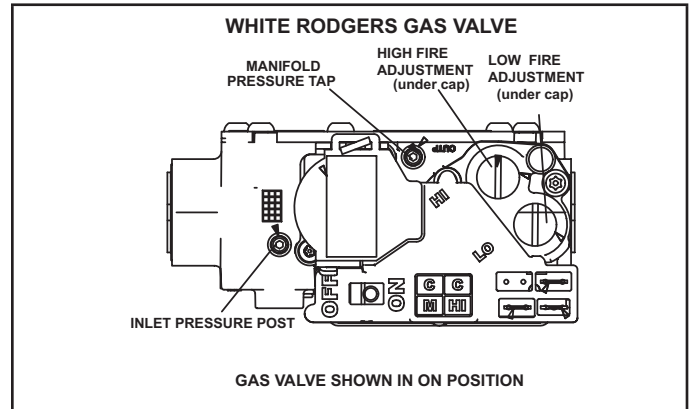
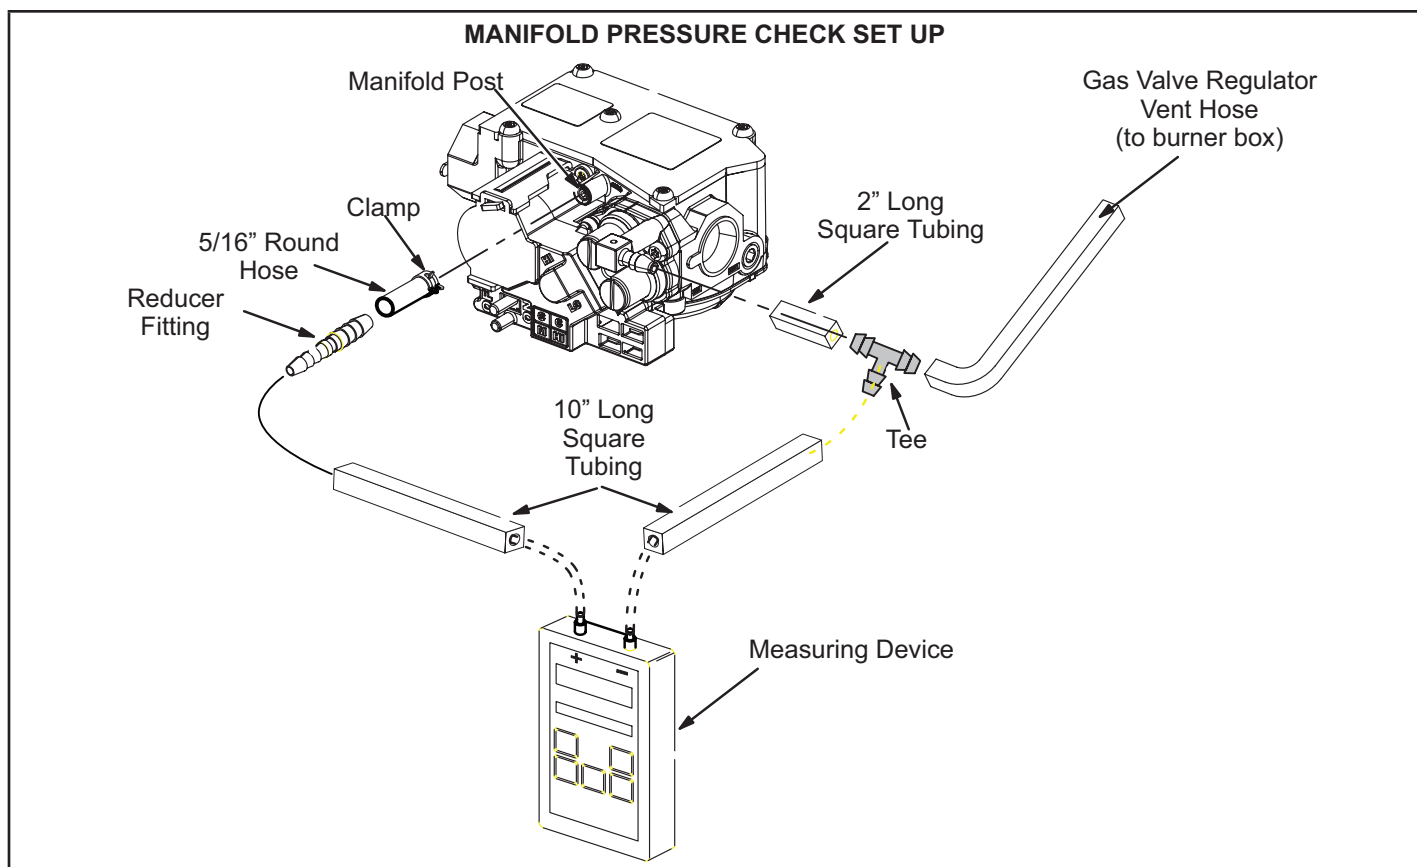

FIGURE 51
FIGURE 53
Gas Valve Operation (FIGURE 51)
- 6 - Move gas valve switch to **OFF**. See FIGURE 51.
- 8 - Move gas valve switch to **ON**. See FIGURE 51.
An inlet post located on the gas valve provides access to the supply pressure. See FIGURE 51. Back out the 3/32 hex screw one turn, connect a piece of 5/16 tubing and connect to a manometer to measure supply pressure. See TABLE 23 for supply line pressure.
A manifold pressure post located on the gas valve provides access to the manifold pressure. See FIGURE 51. Back out the 3/32 hex screw one turn. Follow the steps below and use FIGURE 53 as a reference. Gas manifold Kit 10L34 provides additional components if needed
- 7 - If necessary, make adjustments. FIGURE 51 shows location of high fire and low fire adjustment screws.